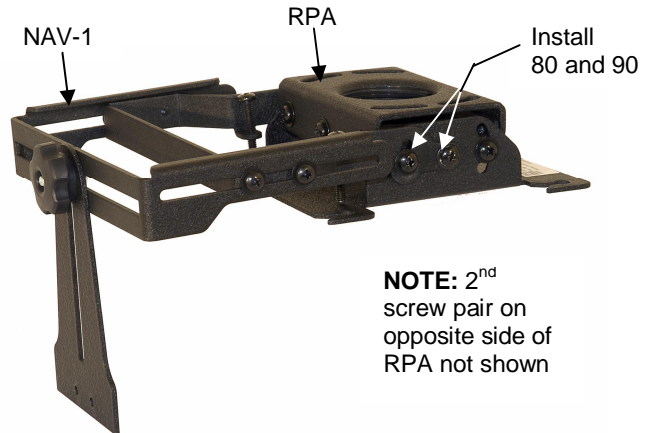

Figure 5. Attach NAV-1 to RPA
4. Slide the NAV-1 over the RPA projector mount, as shown in Figure 5.
6. Locate the parts bag supplied with the NAV-1. Find four 5/8" screws (80) and four #10 washers (90).
7. Attach the NAV-1 to the RPA by installing four screws (80) and washers (90) into the threaded holes on the RPA. Figure 5.